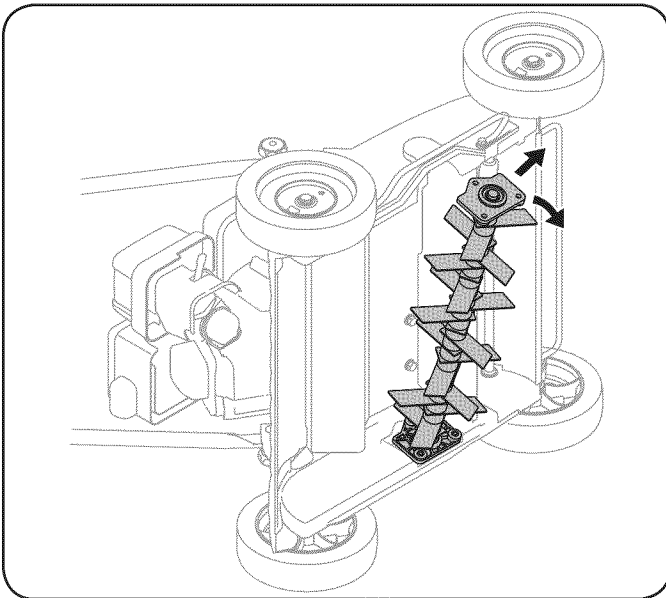

Figure 19
5. Slide the blade assembly out from the right side (opposite the engine) and lift up once the blade assembly is clear of the housing. See Figure 19.